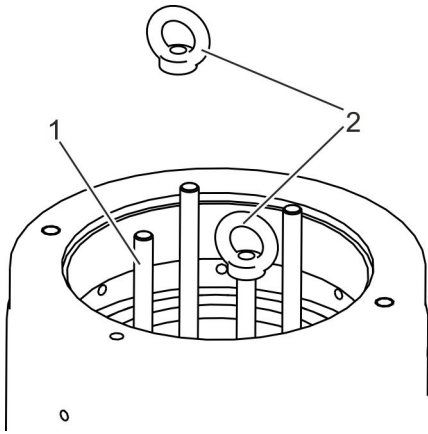

Fig. 10: Attaching the cover with ring nuts
8. ➤ Screw the supplied ring nuts (Fig. 10/2) onto the stud bolts (Fig. 10/1) of the cover.
9. ➤ Ensure that the thread of the ring nuts (Fig. 10/2) is fully screwed onto the stud bolts (Fig. 10/1).
10. ➤ Attach the ring nuts (Fig. 10/2) onto the hoist with suitable sling gear.